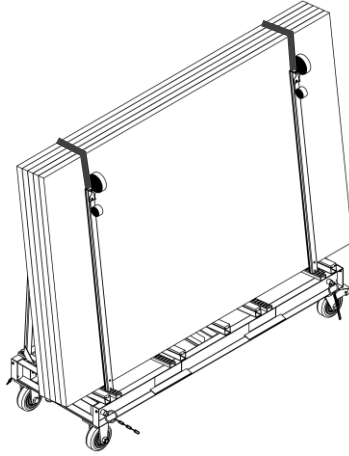

Figure 1.4
Step 3: Install ratchet securing bars to restrain the slabs (Figure 1.4).